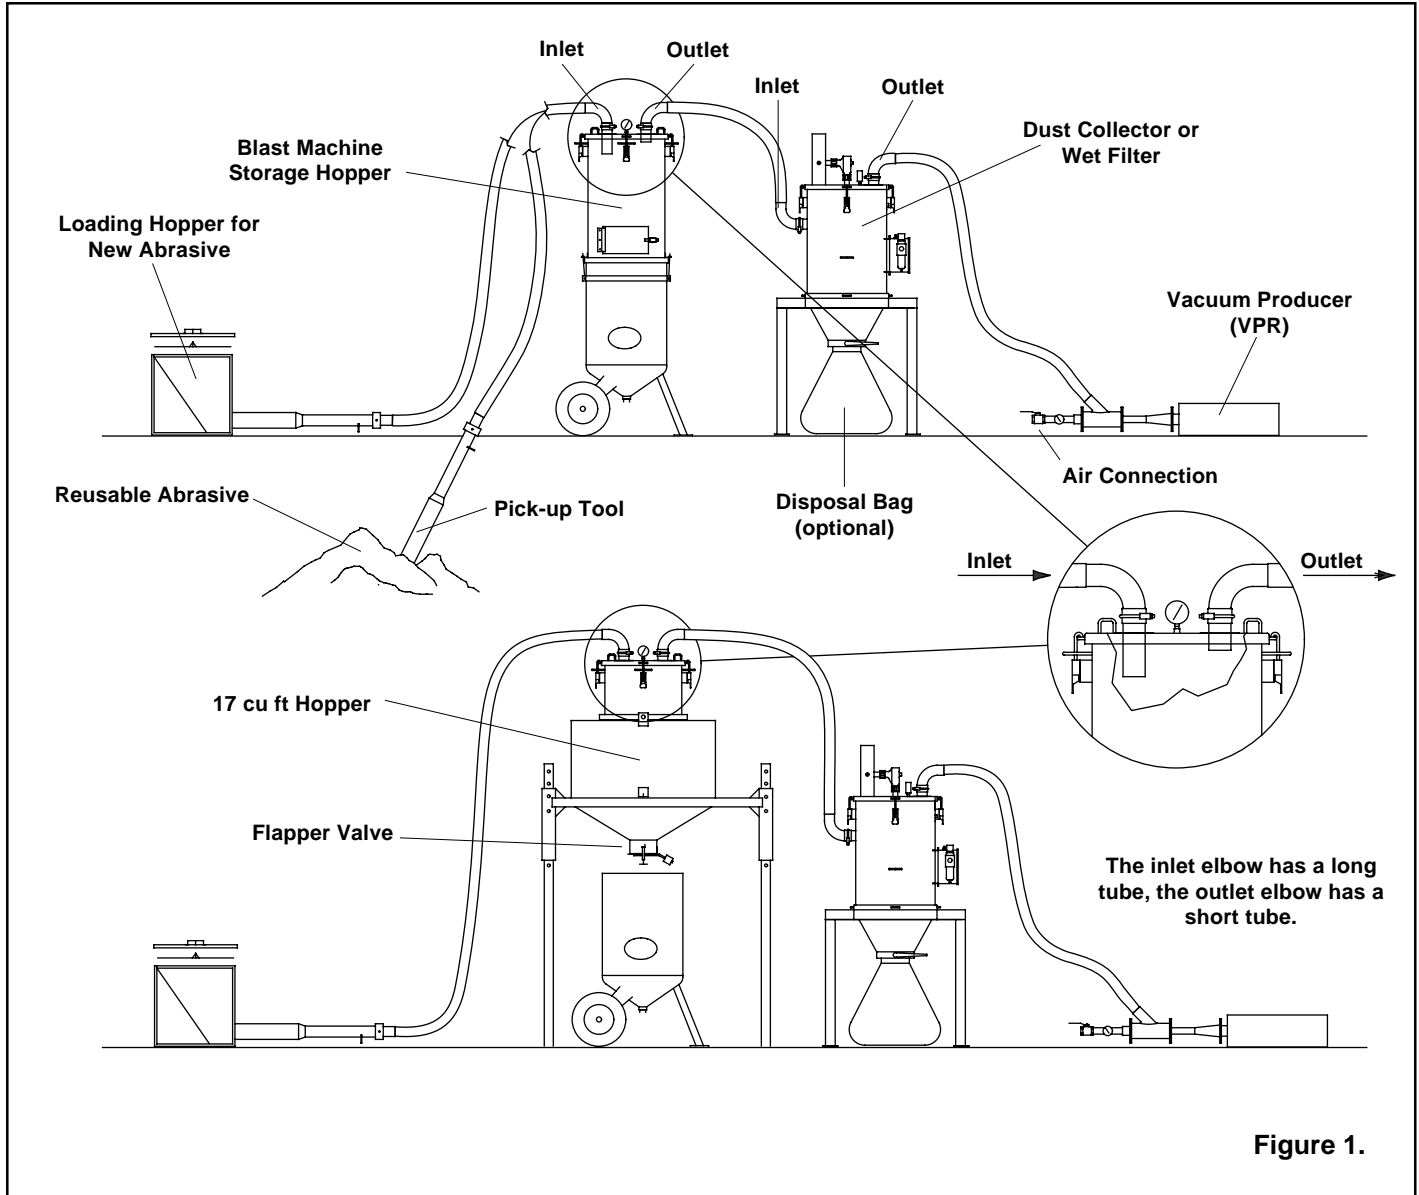
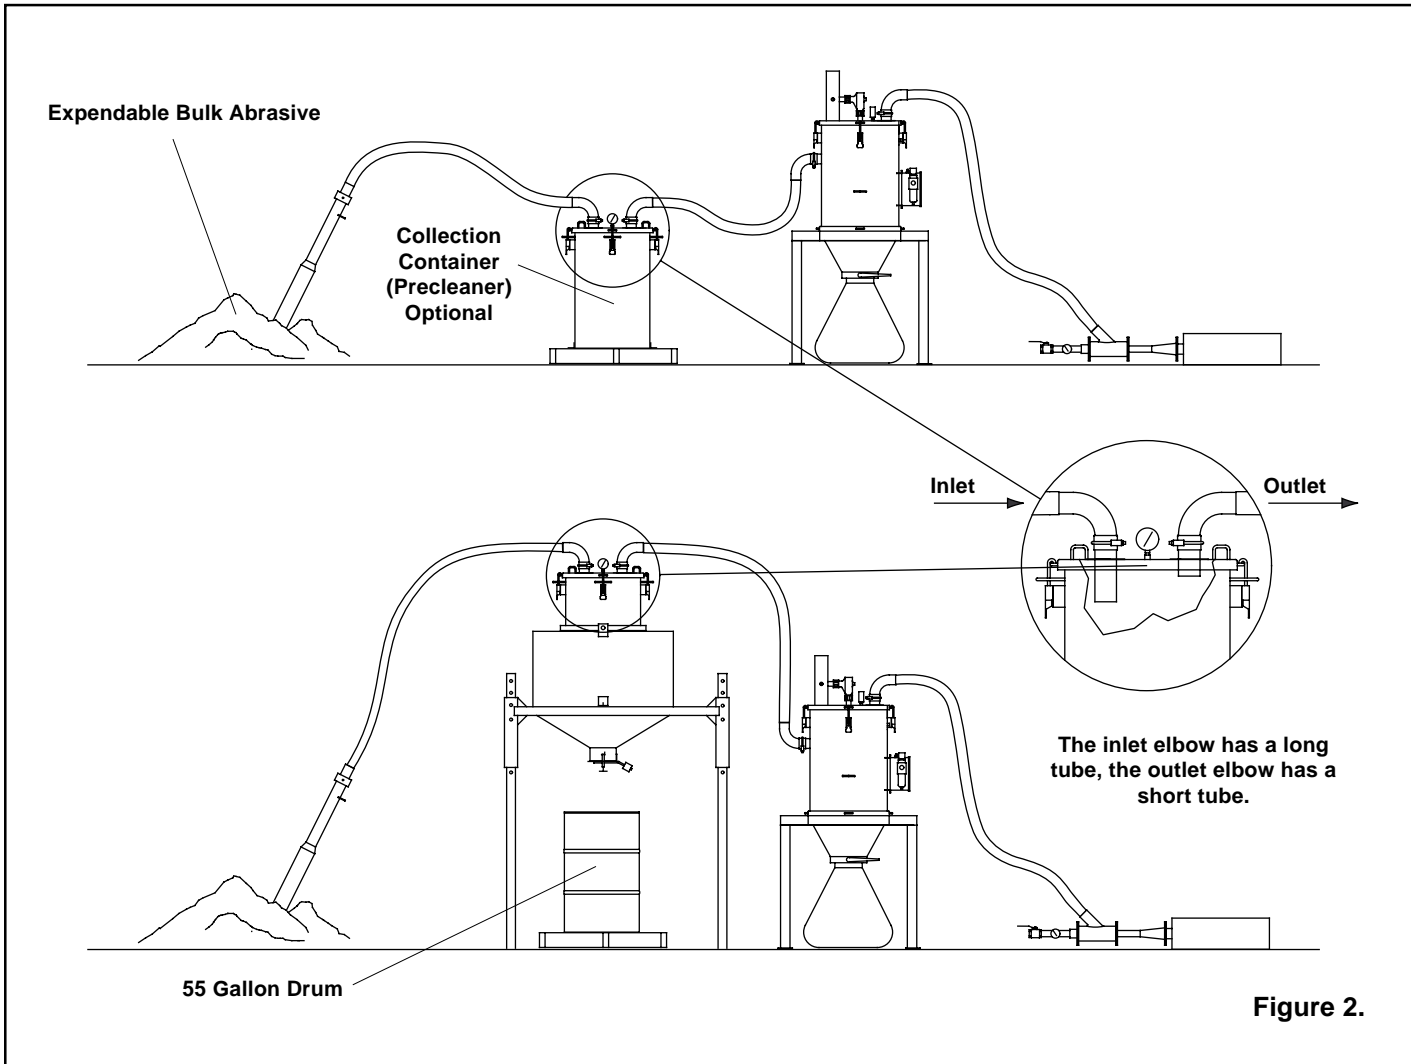

Figure 1.
Figure 2.
**1.3 General Description:** The layout and components of the Easy Load systems are shown in Figures 1 and 2. The only difference between the two systems shown in the figures, is that one uses a 6 cubic foot storage hopper mounted on the blast machine, while the other uses the larger free-standing 17 cubic foot hopper. Figure 1 shows them set-up for loading, Figure 2 shows them set-up for recovery of spent abrasive.
The illustrations are shown with the reverse pulse dust collector. See Figure 4 for an illustration of the wet-filter. All connections, regardless of the dust containment options are the same as shown in Figures 1 and 2.
**1.4.2 Loading Mode:** (See Figure 1) The Easy Load is a pneumatic abrasive loader which can move new or reusable abrasive from the loading hopper to the blast machine storage hopper, or the pick-up tool can be removed from the loading hopper to load piled abrasive. The system can be truck or trailer mounted for portable use or used in a permanent facility.
**1.4.3 Recovery Mode:** (See Figure 2) The pick-up tool is removed from the loading hopper and used as a portable pick-up tool. In this mode, spent abrasive is vacuumed from the blasting area, to a collection container for easy dumping.
**3.1.1** The following text explains the set-up for using the Easy Load in the loading mode. Set-up for recovery is the same except a recovery container is used in place of the blast machine storage hopper. If the 17 cubic foot hopper is used the only difference is the blast machine is removed from under the hopper and replaced with a disposal drum. See Figure 1 for loading set-up, Figure 2 for recovery set-up.
**3.1.2** The illustrations in Figures 1 and 2 shows the optional reverse pulse dust collector. Set-up for the wet-filter is the same as the dust collector with the exceptions noted in section 3.6.1. See Figure 3 for wet-filter illustration.
### 3.2 Set-Up (Refer to Fig. 1 and 2).
**3.3.4** Place the lid assembly on the storage hopper. (When using the system in the recovery mode, use the lid over a collection container, see Figure 2). The elbow with the long dip tube is the inlet. Verify that the "IN" label is at the elbow with the long tube.